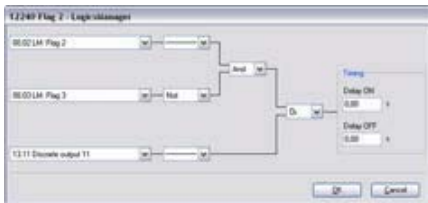

Fig. 192: LogicsManager function "Flag 2"
3. ➔ Configure the LogicsManager function "Flag 2" as shown in (Fig. 192).